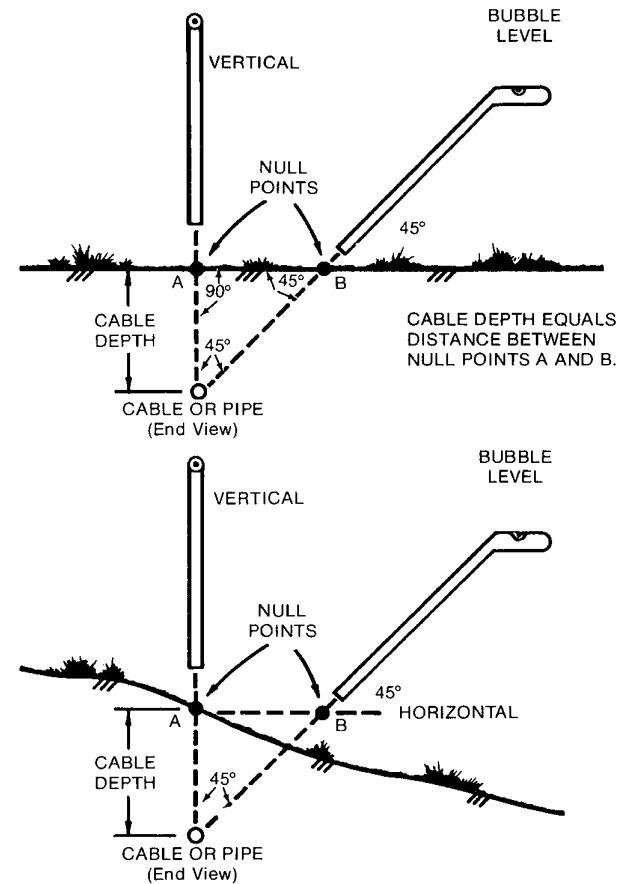

Figure 2-8.
5. Hold the snoopers probe vertically (see Figure 2-8) and locate the NULL directly above the cable or pipe. Mark this spot as NULL point A.
6. Hold the snoopers probe at a 45 degree angle (see Figure 2-8), using the bubble level located on the handle of the snoopers probe. Move the snoopers probe on a horizontal line away from NULL point A and at right angles to the path of the cable or pipe until a NULL is found. This is NULL point B.
7. The depth of the cable or pipe beneath NULL point A (see Figure 2-8) is the same as the distance between NULL points A and B.